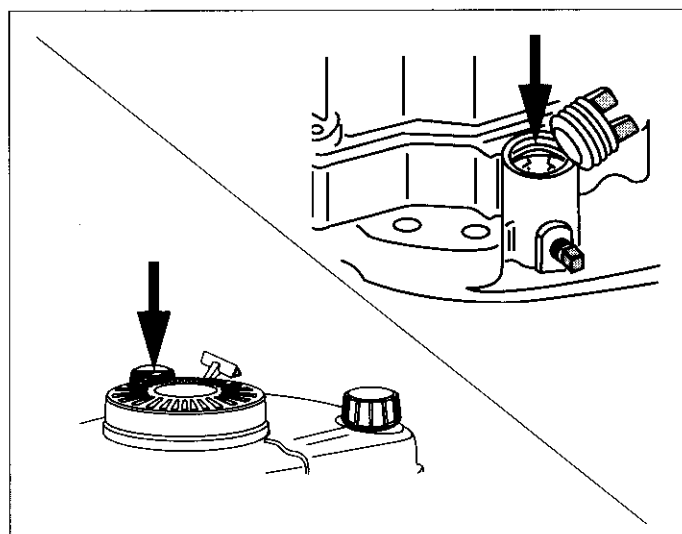

Figure 22. Oil Filler Locations
9. Fill with recommended oil. See "III. Oil and Fuel Specifications" instructions on page 3. See Table 1 on page 3 and Table 2 on page 4. See Figure 22.
1. Be sure you find the correct drain plug location, if provided. See Figure 22.
8. Fill with recommended oil. See "III. Oil and Fuel Specifications" instructions on page 3. See Table 1 on page 3 and Table 2 on page 4. See Figure 22.